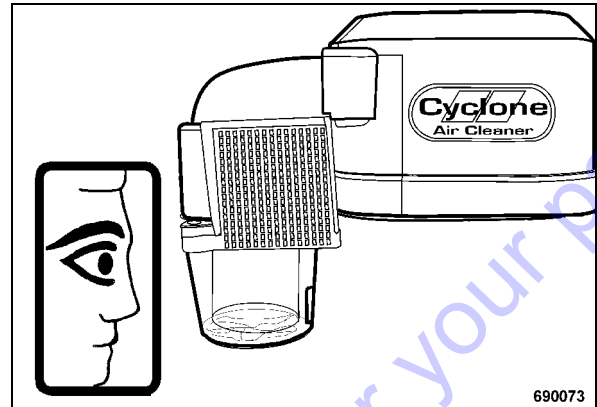

Fig. 71
- Check the cyclon in the housing cover for dirt or blockage, clean if necessary (Fig. 71).